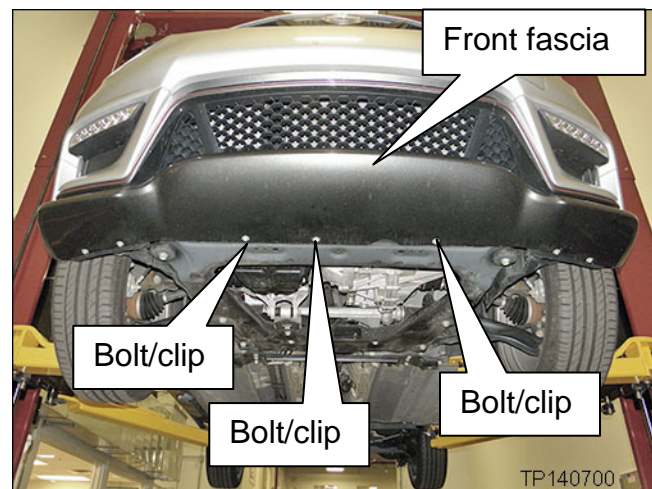

Figure 1
2. Remove 3 bolts or clips, shown in Figure 1, from the lower front fascia.